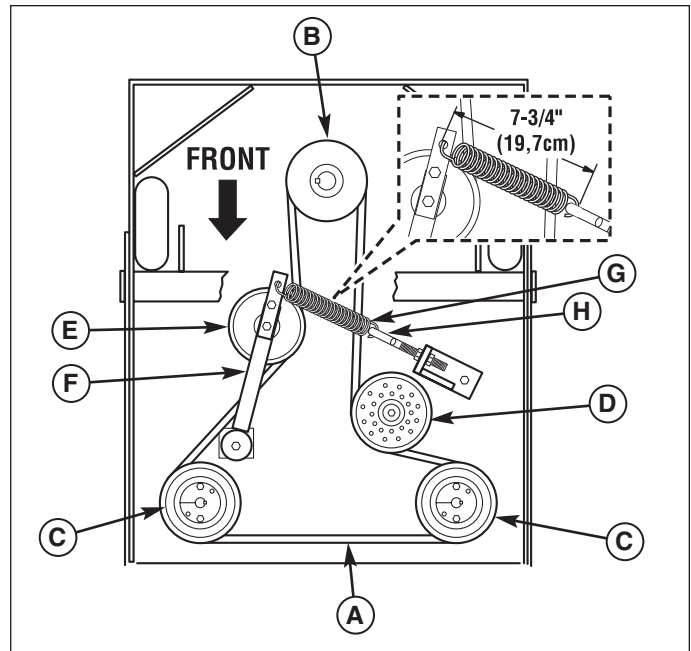

Figure 25. Hydraulic Pump Drive Belt Replacement (Shown from Below)
2. See Figure 25. Turn the pre-load adjustment collar (A) **CLOCKWISE** to increase the pre-load, turn **COUNTER-CLOCKWISE** to decrease the pre-load. Make sure both shocks are set to the same amount of pre-load.
3. Loosen the nut towards the front of the machine on the spring anchor hook (H, Figure 25) to release the majority of the belt tension. Use caution and remove the nut to completely release the tension.
5. Reinstall the anchor hook (H) into the anchor tab and loosely fasten the nut. Adjust the spring until a measurement of 7-3/4" (19,7cm) is achieved from the outside of the spring hooks. Tighten nut.